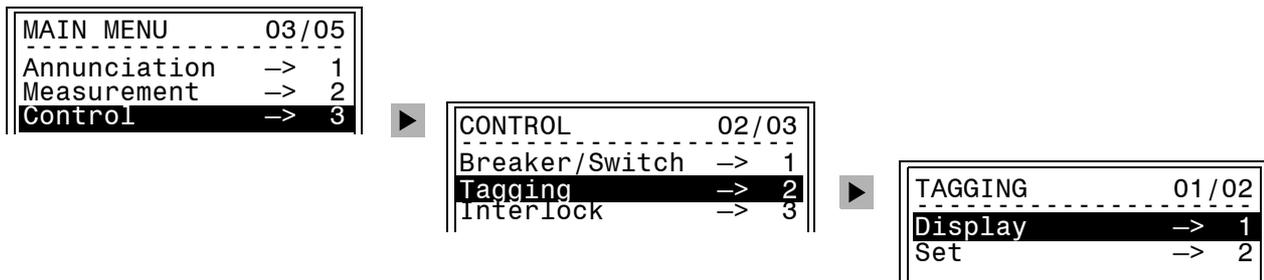

Figure 4-11 Tagging equipment from the operator control panel
- The status of the tagging is displayed on the operating panel, **Main Menu** → **Control** → **Tagging** → **Display** (Figure 4-11), or changed using